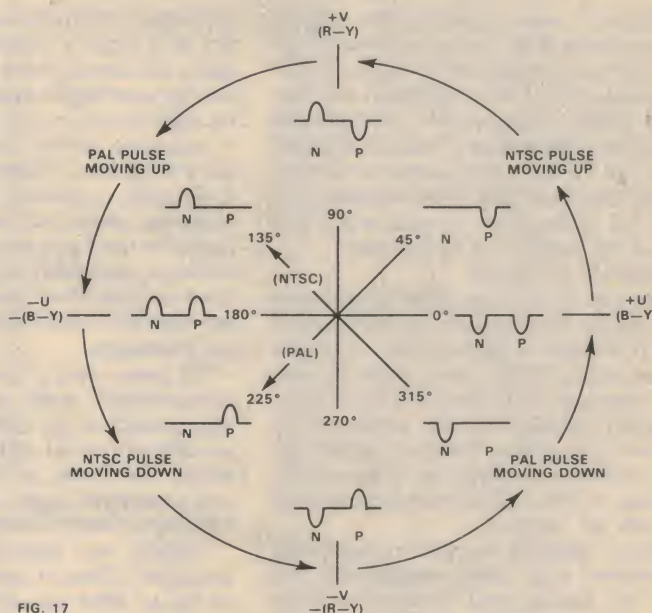

FIG. 17
Additional phase shifts are present in the subcarrier oscillator, ALT-V and U phasing stages, chroma amplifier and synchronous demodulators. The directions of these phase shifts are so engineered that the relative axes of the chroma information and the subcarrier drive signals are correct at their respective ALT-V and U demodulators. With minor differences, these phase shifts are common to the first decoder circuit but for the sake of simplicity mention of them was omitted from the earlier circuit description. One important point which was perhaps over-simplified was that if the sub-carrier oscillator is to act as a synchronous demodulator and so produce unequal burst demodulation products, then the oscillator signal must have an offset from the mean burst phase. This will be obvious when Fig. 17 is consulted. Note also that the oscillator phase differed from the new design because no U phasing stage was employed.
Since the phase inversions produced by Q10 and the oscillator transistor Q14 cancel each other, the sum total of the phase leads produced by the crystal filter (approximately 95°) and the oscillator input circuit (approximately 30°) mean that the oscillator operates with an output phase lead of 125° from the average burst phase. (This is equivalent to 55° of Fig. 17). This relationship is illustrated by Fig. 8, and should be compared with Figs. 6 and 7 which show the phase skewing limits available from the synchronized oscillator ($+45^\circ$ and $+180^\circ$). The total phase variation available is 135° , and the magnitude of the phase shifts introduced by the ALT-V and U phasing stages is so chosen that the oscillator normally operates at or near the centre of its skewing range. This ensures optimum performance from the APC system, which makes use of the oscillator's phase skewing characteristic by controlling its free-run frequency via the varactor diode, VA1.
Because of phase shifts present in the chroma amplifier and synchronous demodulators, the subcarrier phase angles (with respect to the nominal burst phase) required by the U and ALT-V demodulators are 170° and 80° respectively, i.e., $+$ and -45° from the oscillator output phase. These angles correspond to 10° (U) and 100° (V) on Fig. 17. The necessary shifts are provided by the phasing stages Q23 (U) and Q19 (ALT-V), which are driven by the oscillator buffer Q16. The U phasing stage is required to provide a phase advance of 45° , and its adjustment range is between $+15^\circ$ and $+180^\circ$. The ALT-V stage must also produce a 45° shift, but this time a phase retard is required, so that the difference between the U and ALT-V demodulation axes is 90° . The adjustment range of the ALT-V phasing stage is between -10° and -80° .
For the V-signal recovery, the circuit techniques employed deviate sharply from those used in the first circuit. The chroma information is synchronously demodulated by a subcarrier on the V axis, but no alternate line phase switching is provided. Since the phase of the encoded V signal is changed by 180° on each alternate line, demodulation by a fixed phase subcarrier will produce a waveform in which each alternate line is reversed in phase (see Fig 10). This is known as an ALTERNATE-V signal. Whilst the polarity of the picture information is reversed from line to line, the $+45^\circ$ and -45° bursts also demodulate alternately positive and negative, as reference to the diagram in Fig. 17 will show.
If we pass the ALT-V signal through a switch which opens only during the burst period, the result is a series of pulses at line rate, each pulse having an alternate polarity. From this signal, two pieces of information may be gleaned. Firstly, since pulse polarity is directly related to burst phase, the ident may be recovered. Secondly, from the diagram in Fig. 17 we see that the amplitude ratio of the alternate line demodulated bursts depends on the subcarrier phase. The demodulated pulse amplitudes are only equal when the subcarrier phase is correct. This is the basis of the operating principle for the APC system, which detects a shift in the mean pulse level, and feeds a correction signal back to the subcarrier oscillator so that the phase returns to normal.
In this case, the demodulated ALT-V signal is used as the source of APC voltage. From Fig. 17, it can be seen that demodulation along the 90° axis with a CW subcarrier yields an ALT-V signal, in which the demodulated burst swings alternately positive and negative on successive lines. Furthermore, it can be seen that when the phase is correct, the positive and negative swings are equal. The ALT-V burst switch is used to gate out all other information except the demodulated bursts, and the result is averaged. If phase errors should occur, the alternate polarity demodulated burst from successive lines are no longer equal in amplitude, and will be predominantly positive or negative, depending on the direction of the error. The averaged output voltage will follow this change, and after DC amplification is applied to the subcarrier oscillator's frequency control circuit.
Fig. 17: this diagram illustrates in practical terms what happens when the $\pm 45^\circ$ swinging burst is synchronously demodulated by a variable phase subcarrier signal as represented by the moving arrow.